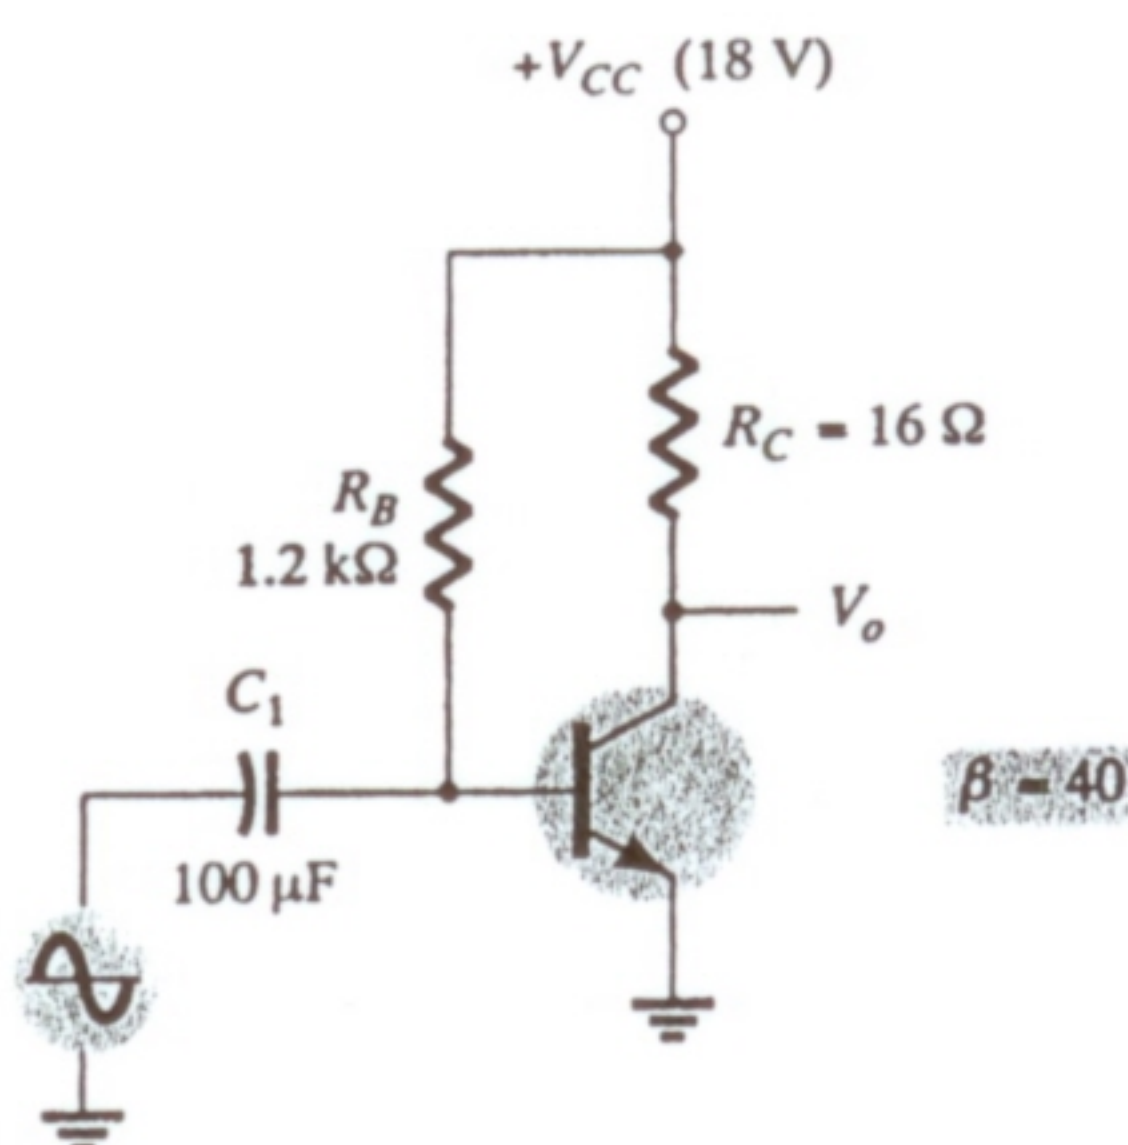

FIG. 12.35
1. Calculate the input and output power for the circuit of Fig. 12.35. The input signal results in a base current of 5 mA rms.
2. Calculate the input power dissipated by the circuit of Fig. 12.35 if R_B is changed to 1.5 k Ω .
3. What maximum output power can be delivered by the circuit of Fig. 12.35 if R_B is changed to 1.5 k Ω ?
4. If the circuit of Fig. 12.35 is biased at its center voltage and center collector operating point, what is the input power for a maximum output power of 1.5 W?
- *26. Use Design Center to draw the schematic of Fig. 12.35 with $V_i = 9.1\text{ mV}$.